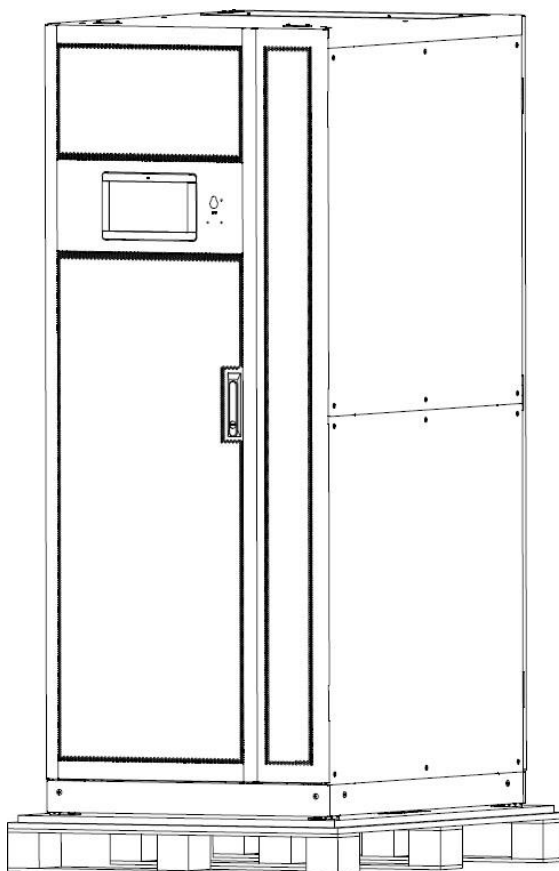

Figure 3-5 Remove the protective foam
Step 4: Remove the protective foam around the cabinet as Figure 3-5: